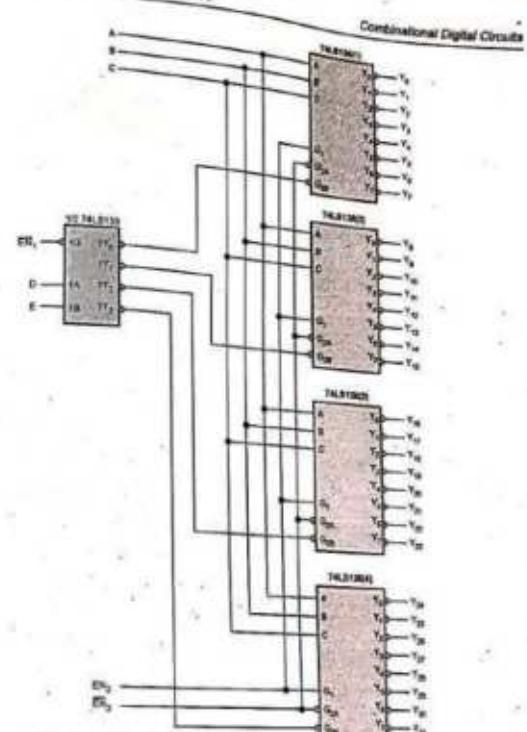

Fig. 4.12.6 5-to-32 decoder using 74LS138 and 74LS139
**Solution :** The Fig. 4.12.6 shows the construction of 5-to-32 decoder using four 74LS138 and half 74LS139 IC. The half section of 74LS139 IC is used as a 2-to-4 decoder to decode the two higher order inputs, D and E. The four outputs of this decoder are used to enable one of the four 3-to-8 decoders. The three lower order inputs A, B and C are connected in parallel to four 3-to-8 decoders. This means that the same output pin of each of the four 3-to-8 decoders is selected but only one is enabled. The remaining enable signals of four 3-to-8 decoder ICs are connected in parallel to construct enable signals for 5-to-32 decoder.